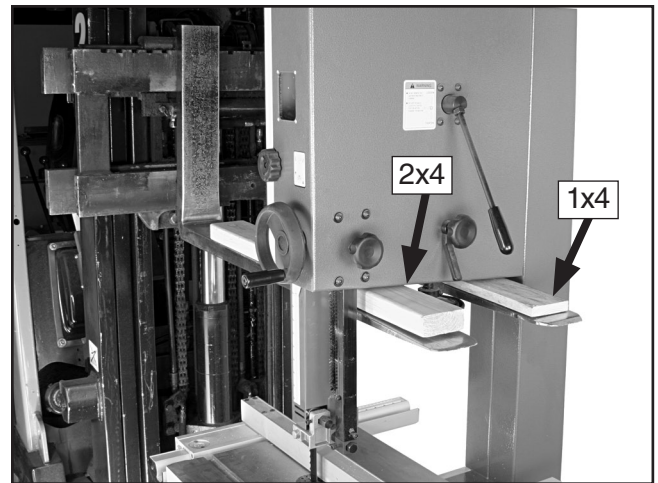

Figure 8. Example of lifting bandsaw with forklift using wood shims.
2. Carefully place the forklift forks under the head and install a 1x4 shim between the head and the left fork and a 2x4 shim between the head and right fork so the bandsaw is level, as shown in **Figure 8**.